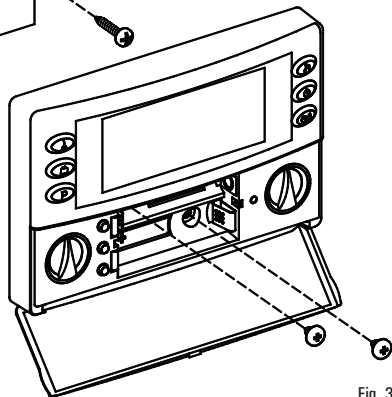

Fig. 3
boxes by means of the two holes for screws (distance between centres: 60 mm or 85mm), taking care to pass the wires through the opening as shown in Fig. 3.
5. Fit the programmable thermostat onto the wall mount plate, first matching up the teeth on the base with the holes provided on the plate and then pressing downward on the device until the plastic teeth of the plate click into place; then fix the programmable thermostat body to the wall mount plate through the two screws supplied which must be mounted in the battery holder (Fig. 3).